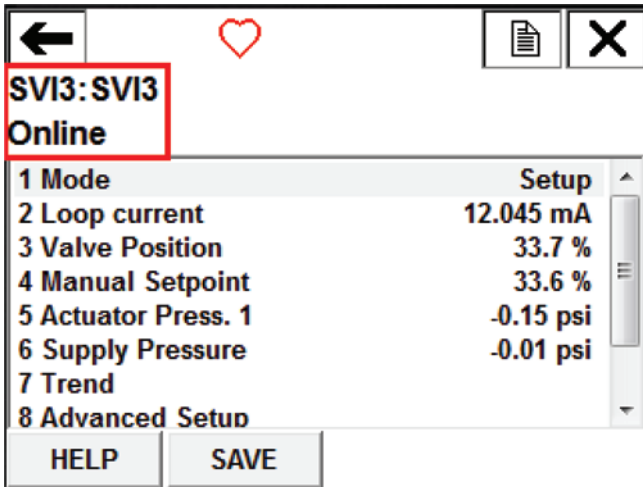

Figure 25 - SVI3 Online Parameters
3. Select **Online** menu in the home screen, the SVI 3 online parameters are displayed as shown in Figure 25.